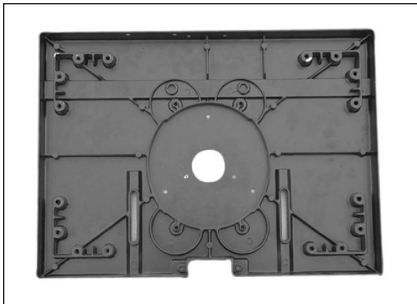

Fig. 2
- Lay the table top (1, Fig.1) upside down on a flat surface (Fig.2).